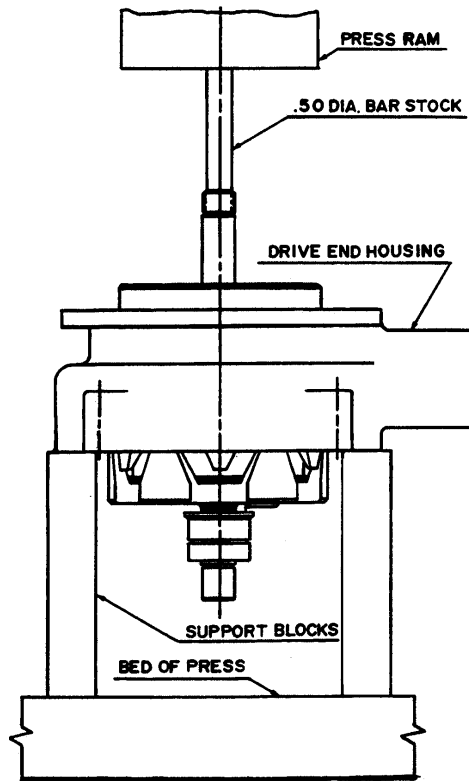

FIGURE 17
2. Remove woodruff key (9), "O" Ring (3), and seal collar (5) as applicable. Discard "O" Ring.
3. Support the drive end housing (6) on the arbor press table and carefully press the rotor shaft (10) out of the drive end bearing (2). Take care not to damage the threads or drop the rotor. (See Figure 17.)